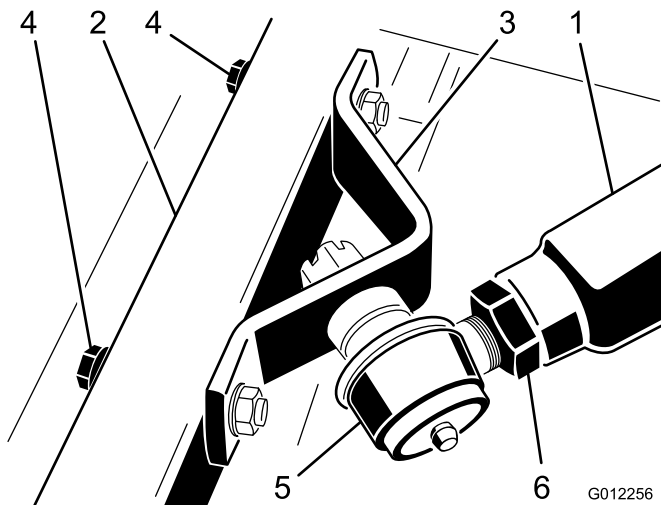

Figure 20
5. Have another person push down on the right push arm while you remove the capscrews, flat washers, and locknuts securing the ball joint mount to the castor arm on the cutting unit (Figure 20). Now the helper can carefully allow the push arm to move upward, which will gradually release the 100 pounds (45 kg) of spring load.
3. Have another person carefully push down on the right push arm until the holes in the ball joint mount line up with the holes in the castor arm (Figure 20).